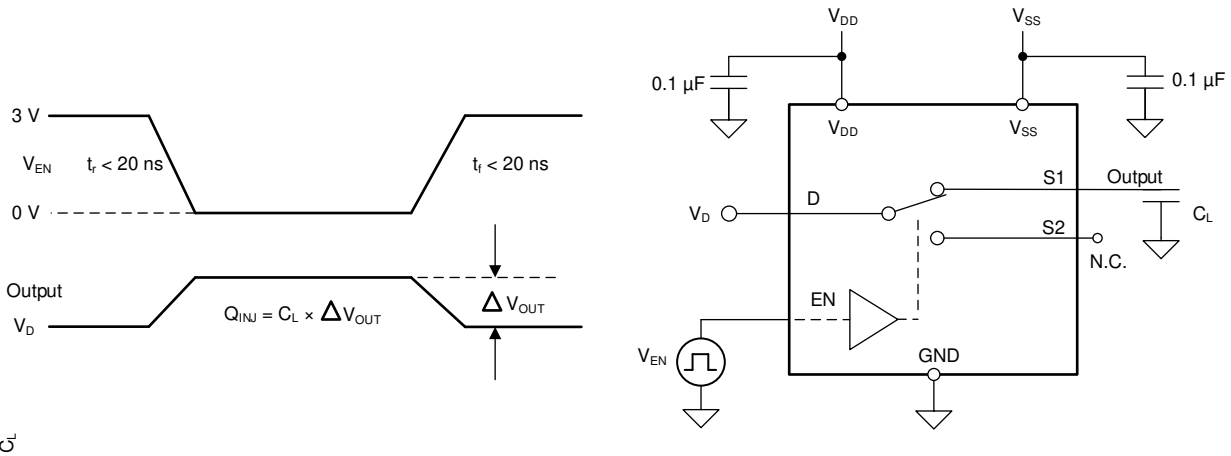

图 7-7. Charge-Injection Measurement Setup
denoted by the symbol  $Q_C$ . 图 7-7 shows the setup used to measure charge injection from source (Sx) to drain (D).